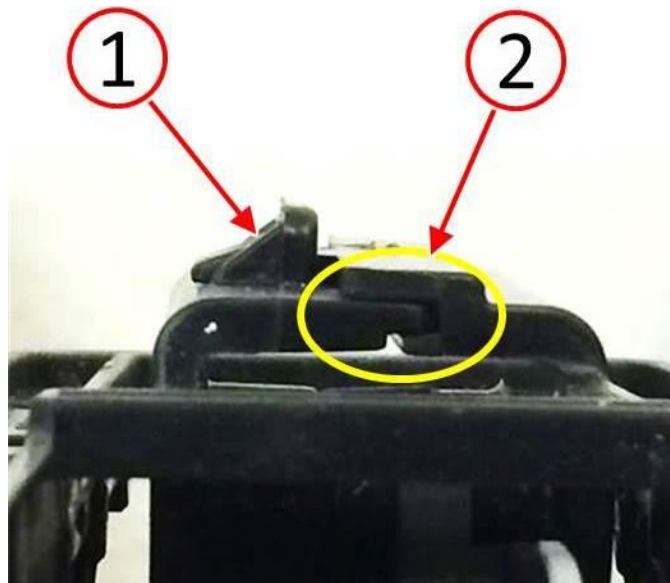

Fig. 6 Inspect Actuator Motor Case Housing For Engagement
9. Inspect for engagement of the AGS actuator motor case housing retainer (1) and that no separation (2) is visible between the actuator motor case housing halves (Fig. 6).